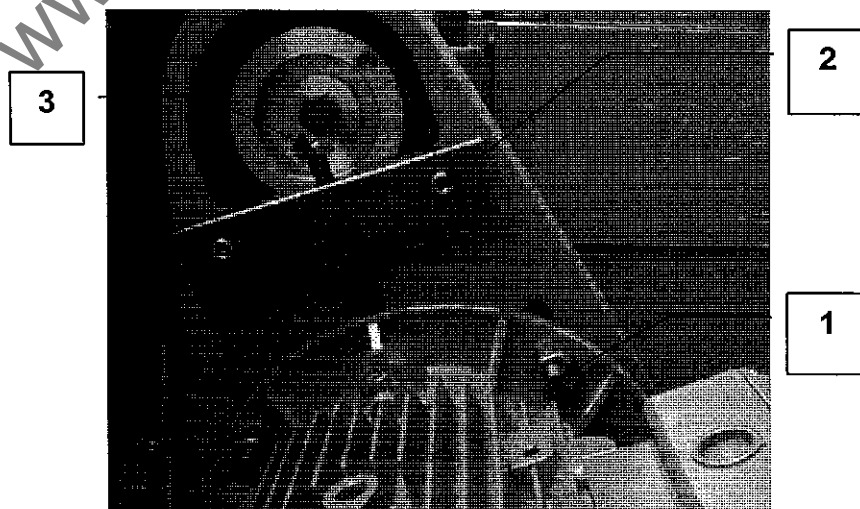
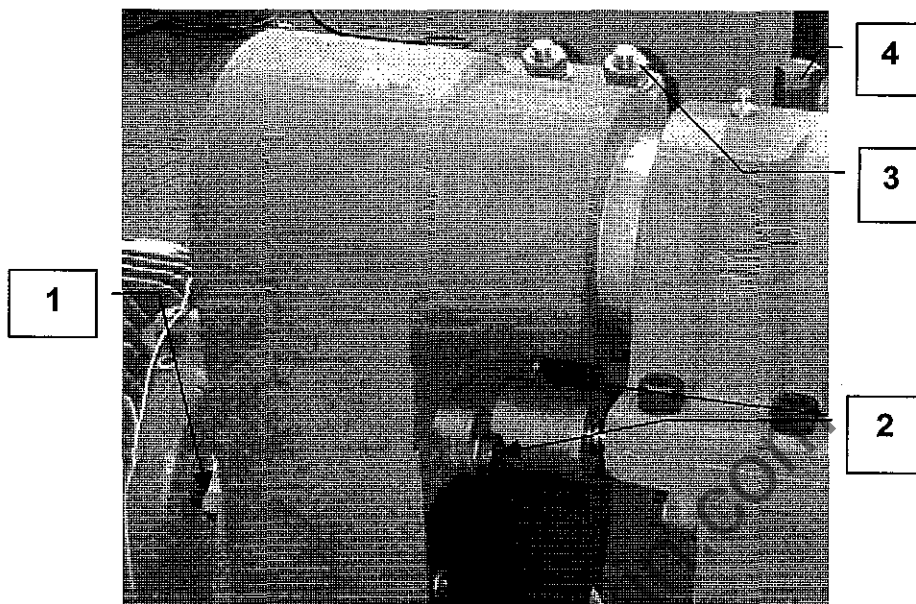

Figure 7.3.1
Figure 7.3.3
7.3.1 **Re-tension Top/Bottom Head Drive Belt (Figure 7.3.1)**
- 2 Slacken the four flange nuts (1).
- 3 Fit the screw block (2) using the drive cover mounting holes as the fixing position.
- 4 Screw in the tensioning bolt (3) until the bottom of the bolt just touches the motor flange.
- 6 Tighten the four flange nuts (1).
7.3.2 Re-tension Fence/Side Head Drive Belt (Figure 7.3.1)
- 2 Slacken the four flange nuts (1). Ease the motor **away** from the spindle.
7.3.3 Replace Spindle Drive Belt (Figure 7.3.3)
- 4 Check that the barrel locknut (4) is tight.